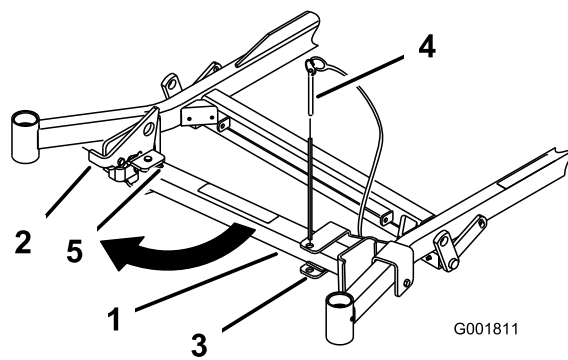
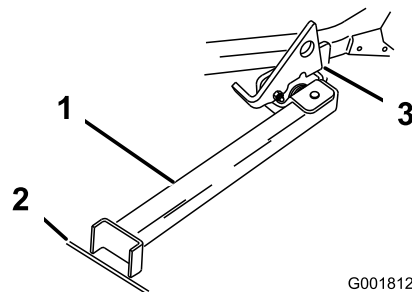

Figure 35
Figure 36
2. Remove the bracket pin (Figure 35).
3. Raise the latch. Swing the stand foot out front and slide stand toward machine, into the bottom of slot (Figure 35 and Figure 36).
6. Set the foot of stand on the ground and rest the latch on the pivot tab (Figure 36).
Note: For best results, place the foot of stand into seams in sidewalks or into the turf (Figure 36).
8. Drive onto the stand. Stop when the latch drops over the tab into the locked position (Figure 36). Once onto the stand, engage the parking brake and turn off the engine.
7. Return the stand to its rest position (Figure 35).